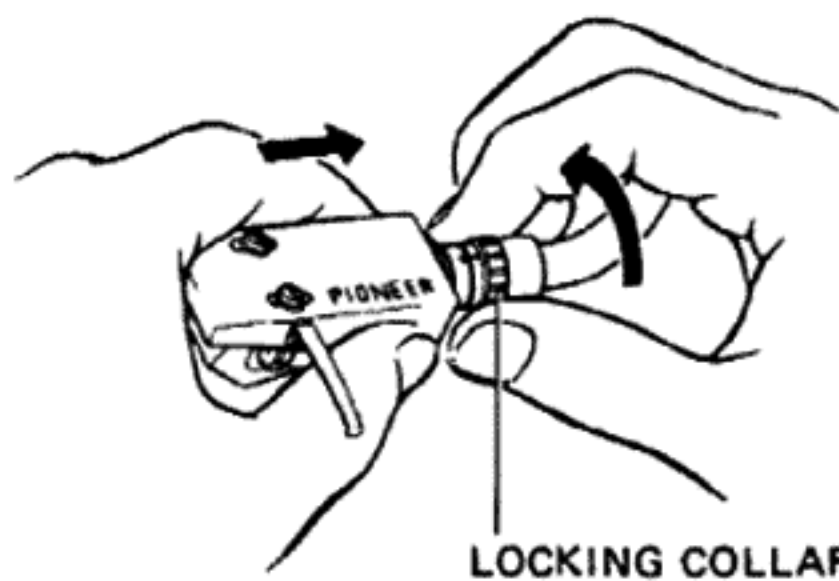

Fig. 8
5. Install headshell on tonearm according to Fig. 8 on next page.
Insert the headshell into the tonearm sleeve and lock it in place by turning the locking collar (Fig. 8).